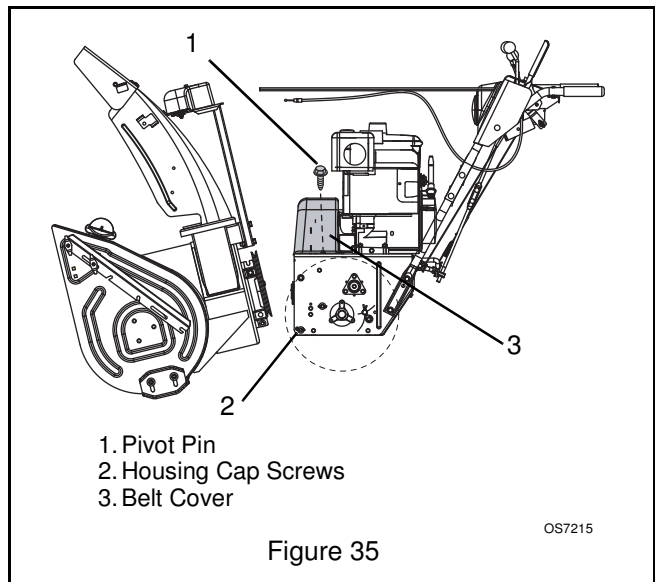

Figure 35
2. Remove belt cover (Figure 35).
7. Remove hex bolts securing housing to frame. Tip housing and frame apart on pivot pins (Figure 35).